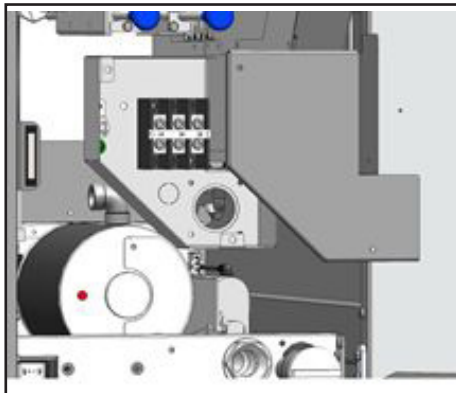

Figure 2.6.1 - (Drain line removed for clarity).
1. Remove the fryer entrance box cover, Figure 2.6.1.